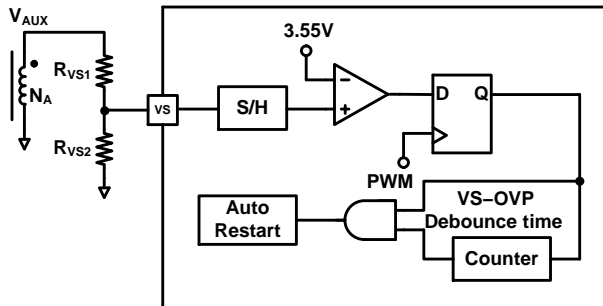

Figure 35. VS-OVP Protection Circuit
VS over-voltage protection prevents damage caused by output over-voltage condition. It is operated in Auto-Restart mode. Figure 35 shows the internal circuit of VS-OVP protection. When abnormal system conditions occur, which cause VS sampling voltage to exceed V_{VS-OVP} (3.55 V) for more than 2 consecutive switching cycles (N_{VS-OVP}), PWM pulses are disabled and FAN604P enters Auto-Restart protection. VS over-voltage conditions are usually caused by open circuit of the secondary side feedback network or a fault condition in the VS pin voltage divider resistors. For VS pin voltage divider design, R_{VS1} is obtained from Equation (10), and R_{VS2} is determined by the desired VS-OVP protection function as